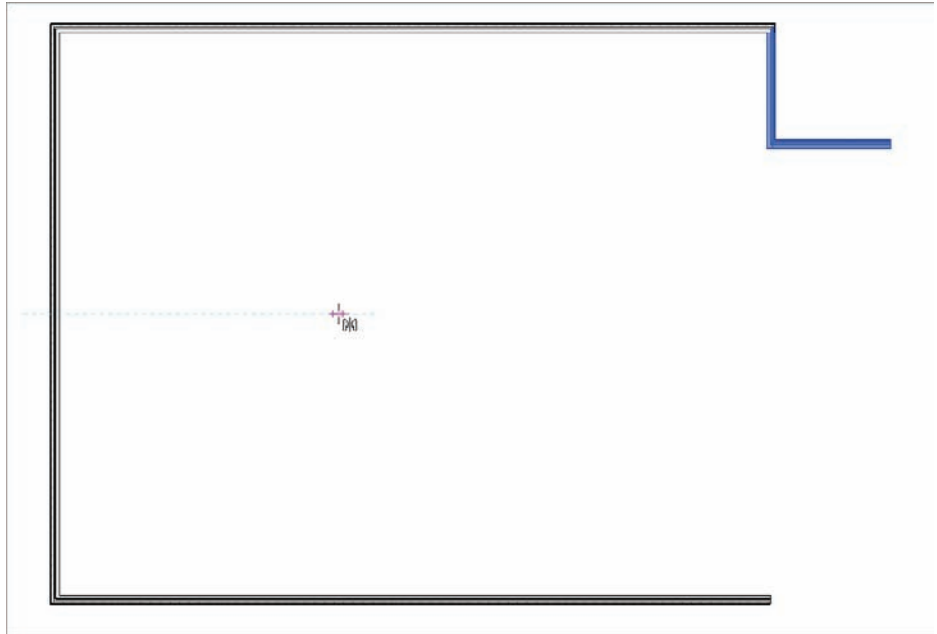
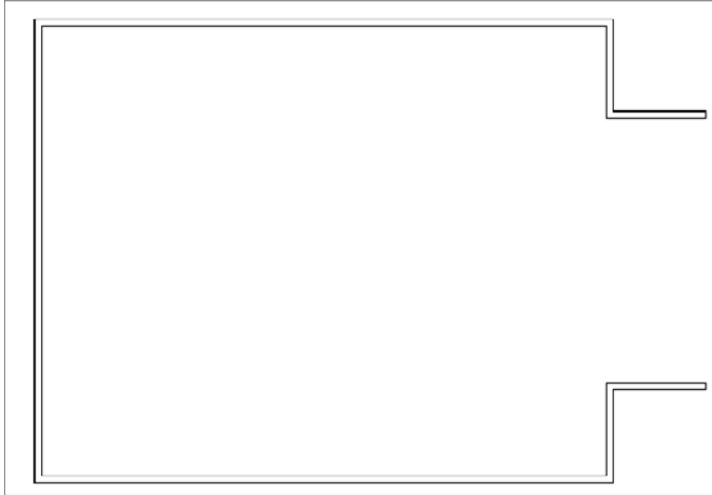

FIGURE 1.27 Mirroring these walls involves first, picking the midpoint of the vertical wall, and second, picking a horizontal point along the plane.
FIGURE 1.28 Your building should look like this illustration.
6. When the triangular midpoint snap appears, pick this point. After you pick the point where the triangle appears, you can move your cursor directly to the right of the wall. You'll see an alignment line appear, as illustrated in Figure 1.27. When it does, you can pick another point along the path. When you pick the second point, the walls are mirrored and joined with the south wall (see Figure 1.28).
Now that you have some experience mirroring items, it's time to start adding components to your model by utilizing the items that you placed earlier. If you're having trouble following the process, retry these first few procedures. Rome wasn't built in a day. (Well, perhaps if they'd had Revit, it would have sped things up!) You want your first few walls to look like Figure 1.28.